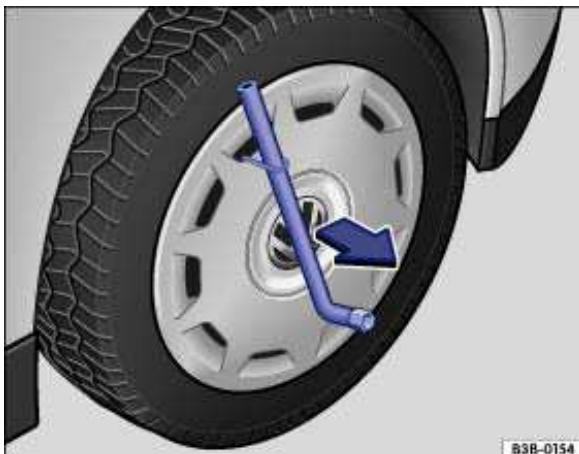

Fig. 205 Pulling the wheel cover off.
- Slide the lug wrench through the clip ⇒ fig. 205 and pull the wheel cover off in the direction of the arrow.